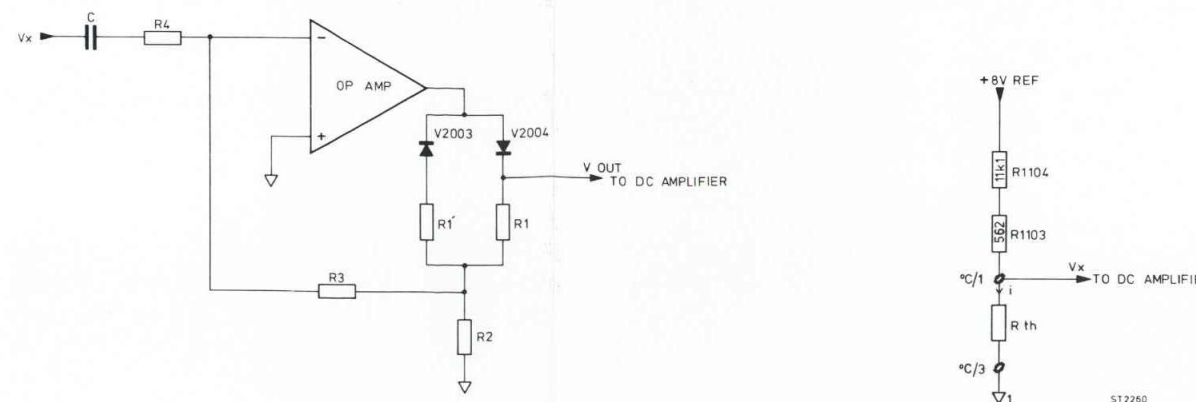

Fig. 20. Temperature measurements
7.2.6. Temperature measurements (Fig. 20)